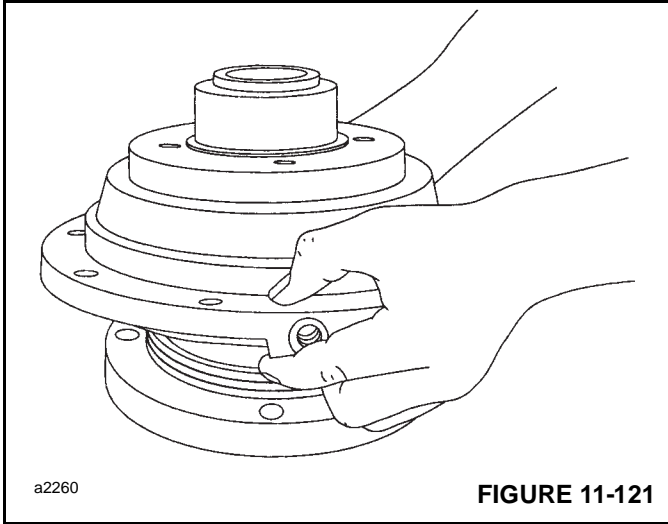

FIGURE 11-121
8. Apply petroleum jelly to the entire sealing surface of the brake cylinder and to the piston seal. Install the brake cylinder over the motor support (Figure 11-121) being careful to avoid damaging the piston seal or motor support O-ring. A press may be necessary to avoid cocking the brake cylinder during installation.